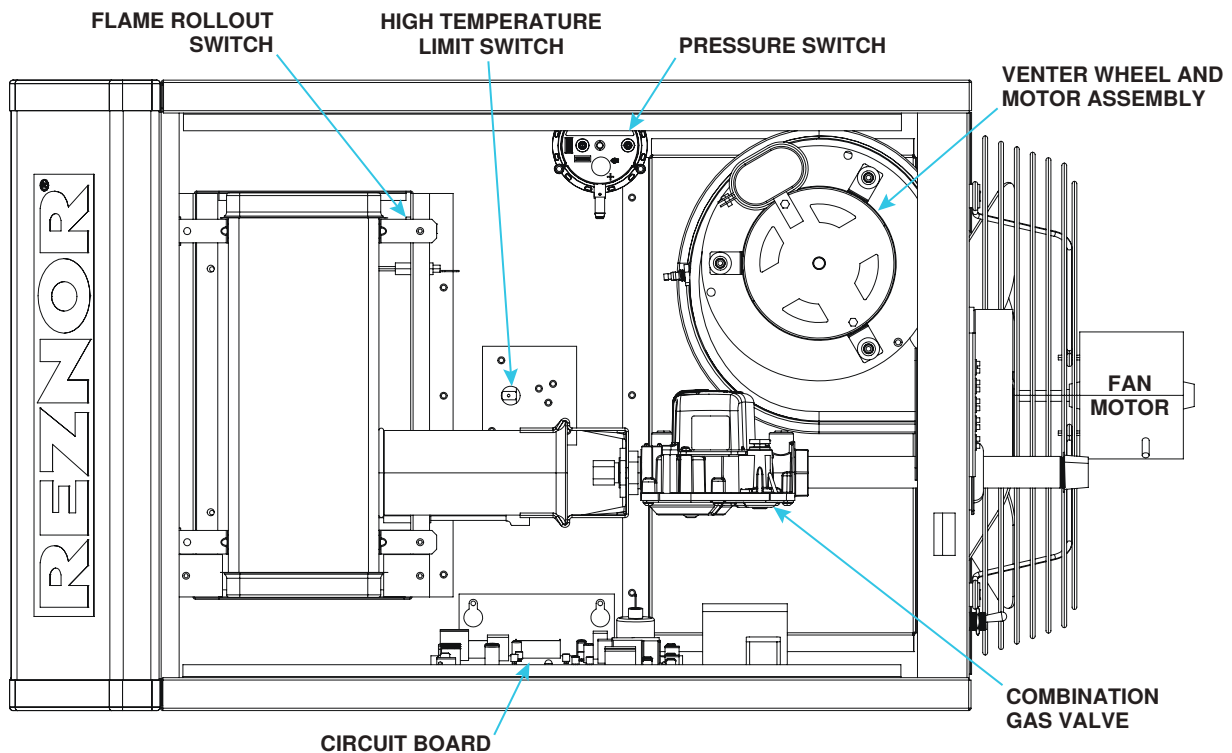

Figure 19. Control Locations (Typical)
- The pressure (combustion air proving) switch (see Figure 19) is a pressure-sensitive switch that monitors air pressure to ensure that proper combustion airflow is available.
All units are equipped with a temperature-activated, automatic-reset high temperature limit switch (see Figure 19). The switch is factory-set and is non-adjustable. If the setpoint is reached, the switch interrupts the electric supply to the combination gas valve. This safety device provides protection in the case of motor failure or lack of airflow due to a restriction at the inlet or outlet.
The venter motor is assembled to the venter wheel (see Figure 19) and operates to provide combustion airflow. Operation is controlled by the circuit board (refer to Circuit Board \(DSI Control Module\) section).
Unit sizes 30–125 of model UDXC are equipped with a temperature-activated, manually-reset flame rollout switch (see Figure 19). The switch, located behind the top burner body support, is factory-set and is non-adjustable. If the setpoint is reached, the switch interrupts the electric supply to the gas valve. If the flame rollout switch activates, identify and correct the cause before resetting the switch.
The combination gas valve (see Figure 19) is powered by the 24V control circuit through the thermostat and safety controls. The diaphragm-type valve is pre-set at the factory and provides regulated gas flow.
The fan motor (see Figure 19) is equipped with automatic-reset thermal overload protection. If the motor does not run, the cause may be due to improper current. Ensure that the correct voltage is available at the motor.
The heater's ignition system is controlled by a circuit board (see Figure 19), a Direct-Spark Integrated (DSI) control module (see Figure 10), that monitors the safety devices and controls the operation of the fan and venter motors and the combination gas valve between heat cycles. The module's Seven-Segment Display (SSD) is visible through a viewport on the access door panel. In addition, there is a status LED on the bottom of the heater. Its status indications are **off** (heater is not powered or control board fault), **steady on** (heater is on with no faults), or **flashing** (heater is on with fault(s)). Additional status indications appear on the display at the bottom of the control module (labeled as DSP1, see Figure 10). The display's codes are listed and described in the Unit Troubleshooting Using DSI Control Module section.